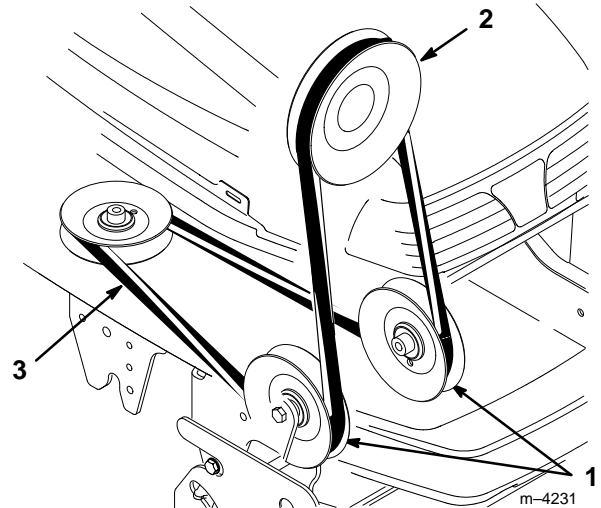

Figure 10
5. Position the belt into the groove of the PTO pulley (Fig. 10), making sure it is also under the pulleys in the pulley box.